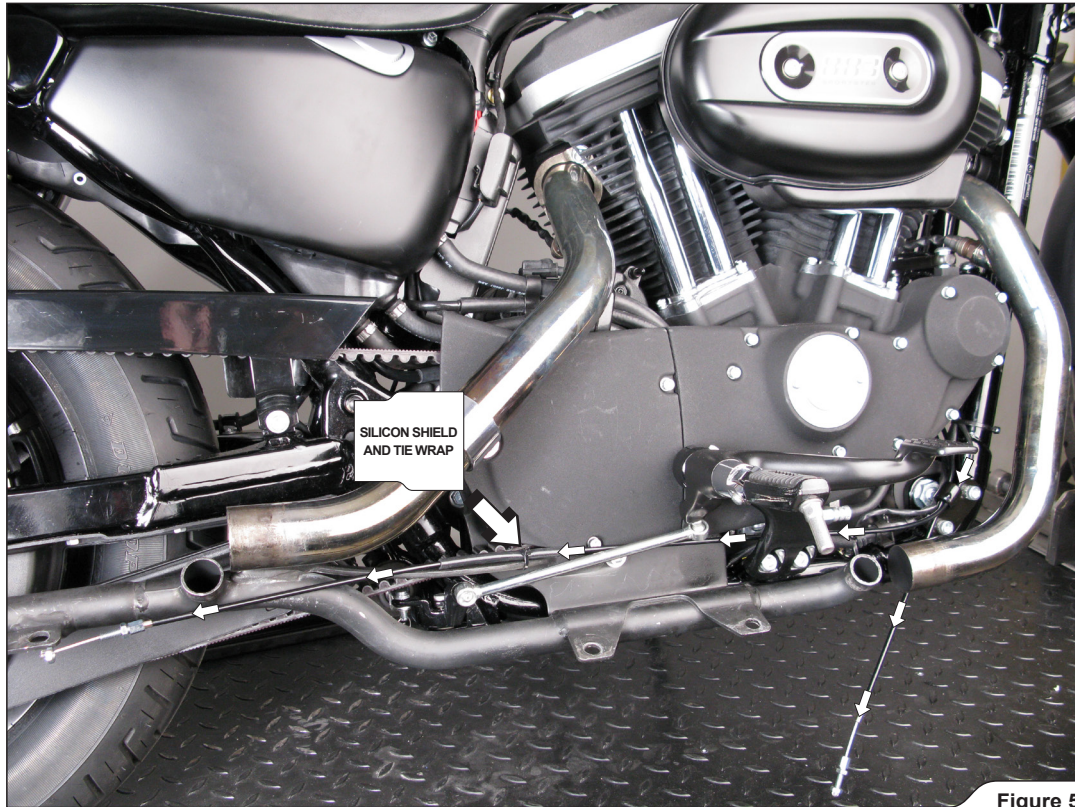

Figure 5
**!** **WARNING:** make sure to adjust the silicon cable shield over the bracket correctly and secure it with tie wrap, as shown (Figure 5)!